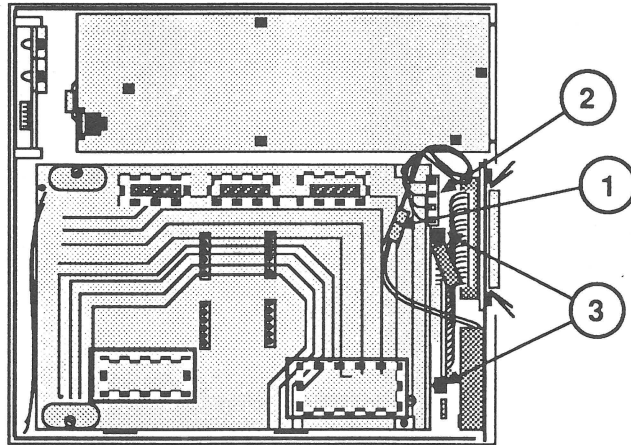

FIGURE 8
2. If a fan is connected to the power supply, disconnect the fan cable by releasing the little holding clip on the connector (Figure 8, #1).
3. Disconnect the power supply cable (Figure 8, #2) from the CD SC drive mechanism.
4. Open the end tabs on the SCSI-device-to-case cable connector (Figure 8, #3) and disconnect the cable from the CD SC drive mechanism.
5. Connect the SCSI-device-to-case cable to the CD SC drive mechanism and close the end tabs (Figure 8, #3).
6. Connect the power supply cable (Figure 8, #2) to the CD SC drive mechanism.